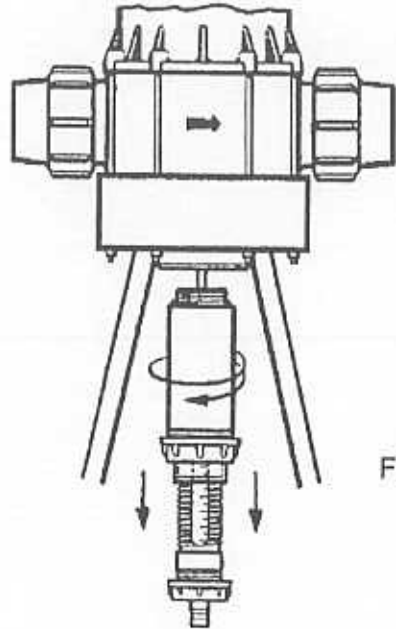

FIG. 10
- Unscrew and remove the injection assembly (Fig. 10)